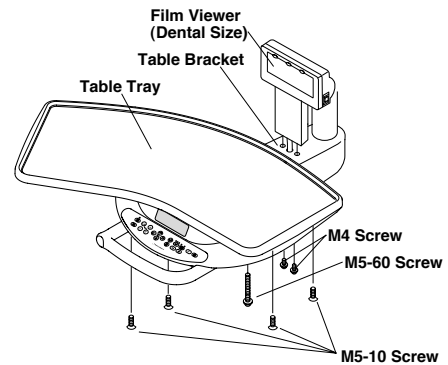

Fig.6-30 Fixing Film Viewer and Table Tray
(Fig.6-30)
Fix the table tray on the table with 4 x M5-10 screws and 1 x M5- 60 screw. **(Fig.6-30)**
(1) Removing Doctor Table Top (Fig.6-30)